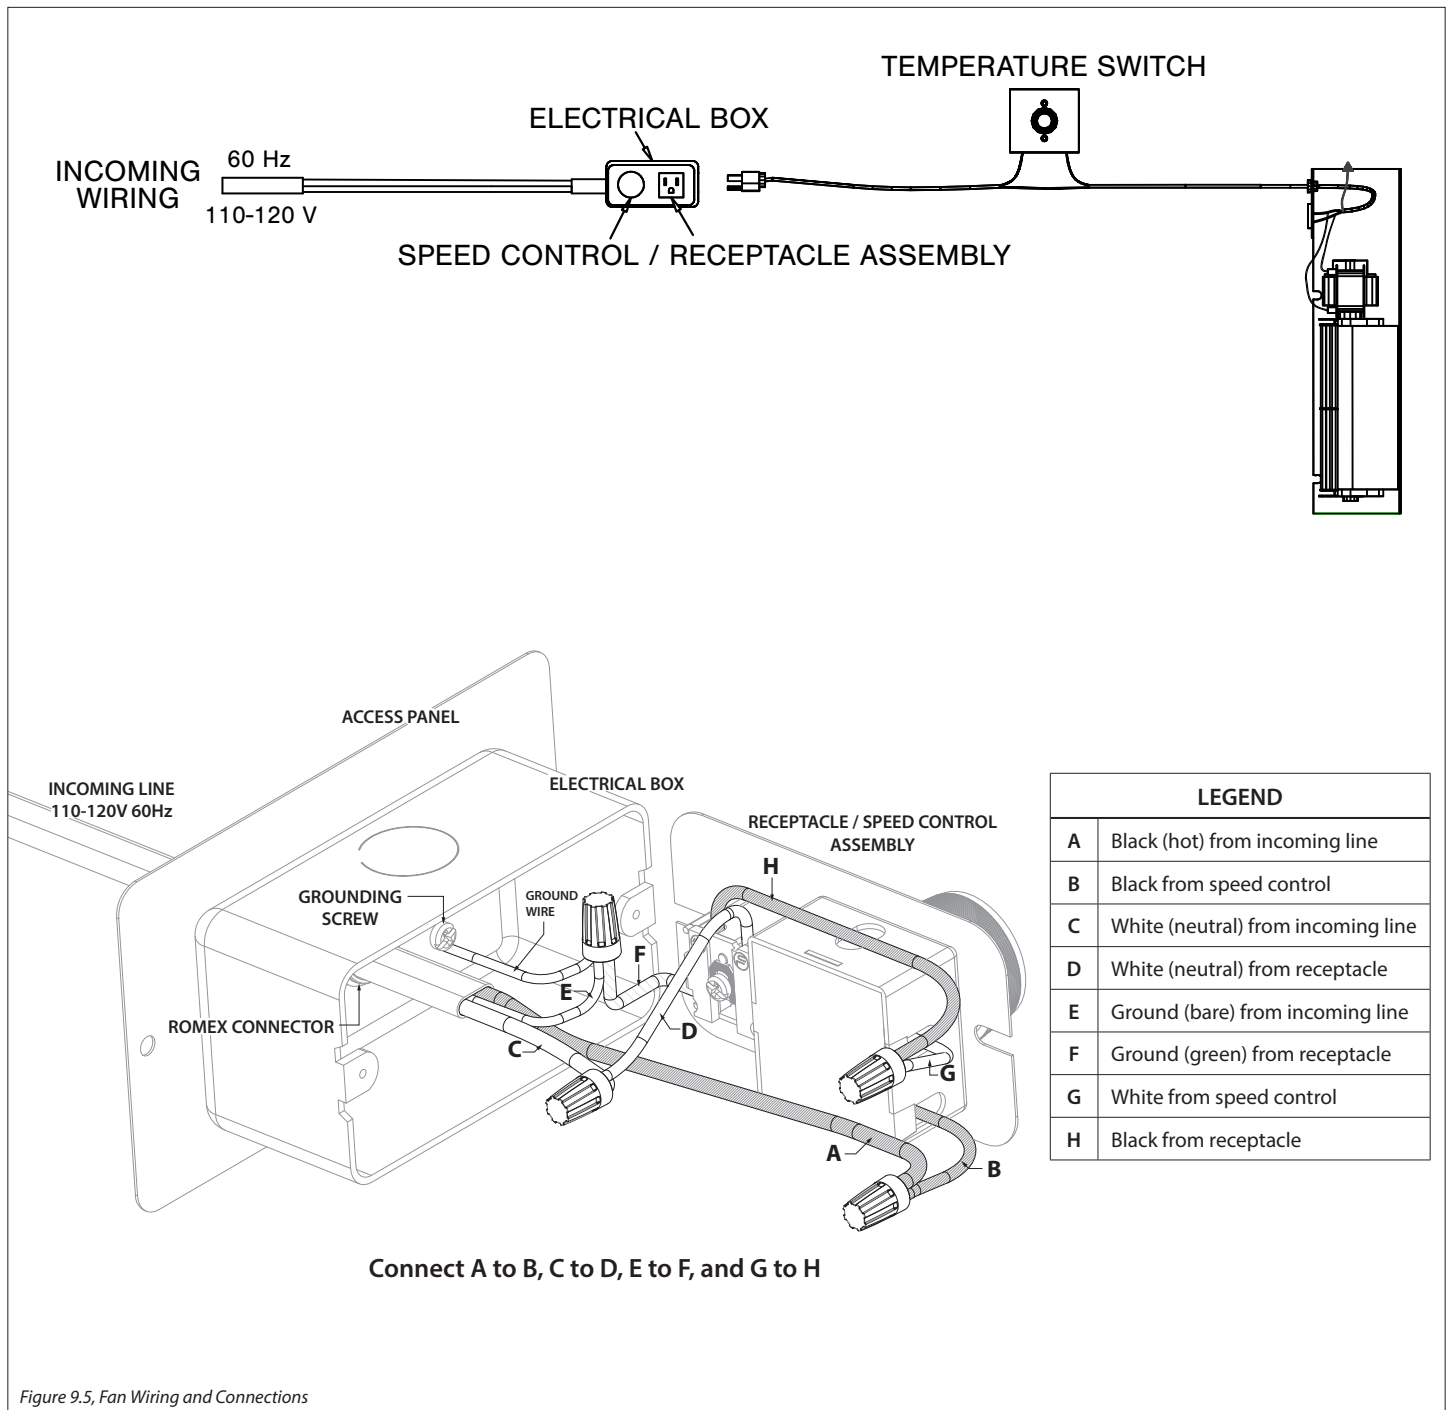

Figure 9.5, Fan Wiring and Connections
2. Remove burner assembly (2) screws, and the pilot shield.
3. Remove the burner heat shield (2) screws, located at the back of the firebox.
4. Remove (8) screws securing the control board. Lift board out of the firebox.
5. Insert the fan through the opening and position at the back of the firebox. Secure with (2) flange nuts.
6. Reinstall the control board. Secure with (8) screws previously removed.
7. Insert 110-120V wiring (with ground) through romex connector and wire to speed control / receptacle assembly matching black (hot) white (neutral) and green (ground) wires to corresponding wires on speed control / receptacle assembly. See Figure 9.5 on the following page.
8. Secure speed control/receptacle assembly to electrical box with (2) screws provided in the fireplace components packet.